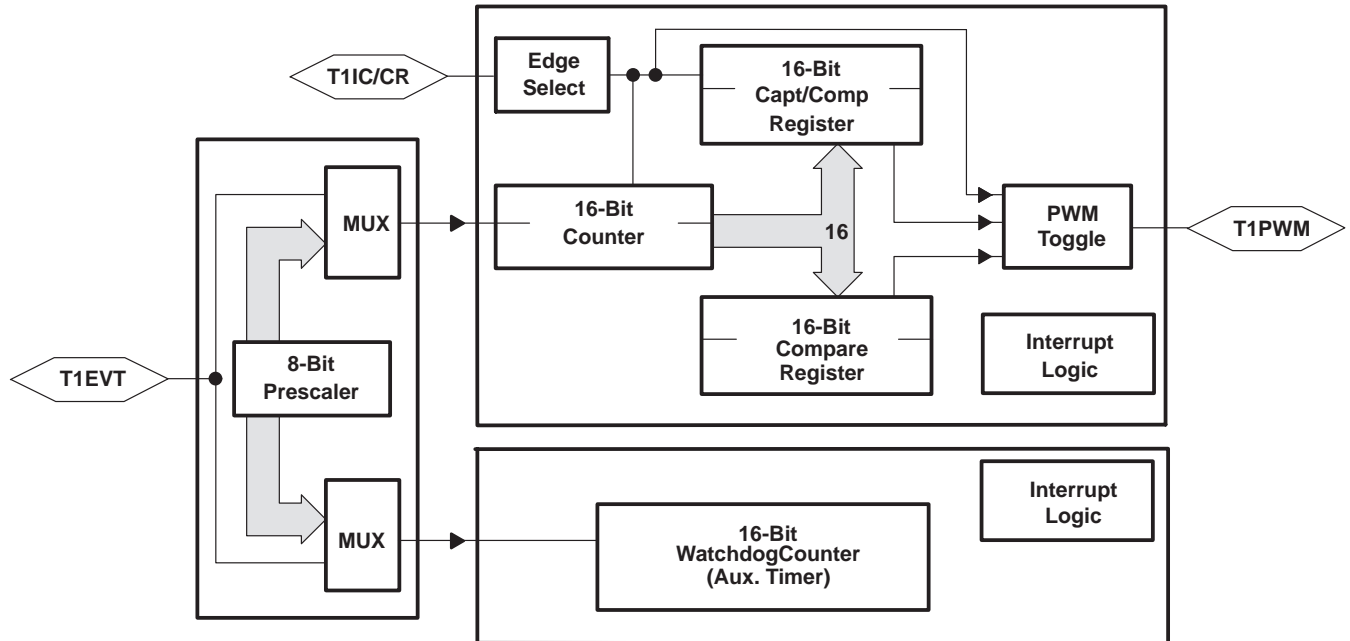

Figure 5. Timer 1 Block Diagram
The programmable timer 1 (T1) module of the TMS370Cx9x provides the designer with the enhanced timer resources required to perform real-time system control. The T1 module contains the general-purpose timer and the watchdog (WD) timer. The two independent 16-bit timers, T1 and WD, allow program selection of input clock sources (real-time, external event, or pulse-accumulate) with multiple 16-bit registers (input capture and compare) for special timer function control. The T1 module includes three external device pins that can be used for multiple counter functions (operation-mode dependent) or used as general-purpose I/O pins. The T1 module block diagram is shown in Figure 5.